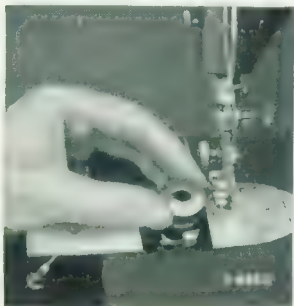

Fig. 11. Removing the Bobbin.
Draw to the left the slide (C) in the bed of the machine and remove the bobbin with the thumb and forefinger of the left hand, as shown in Fig. 11.